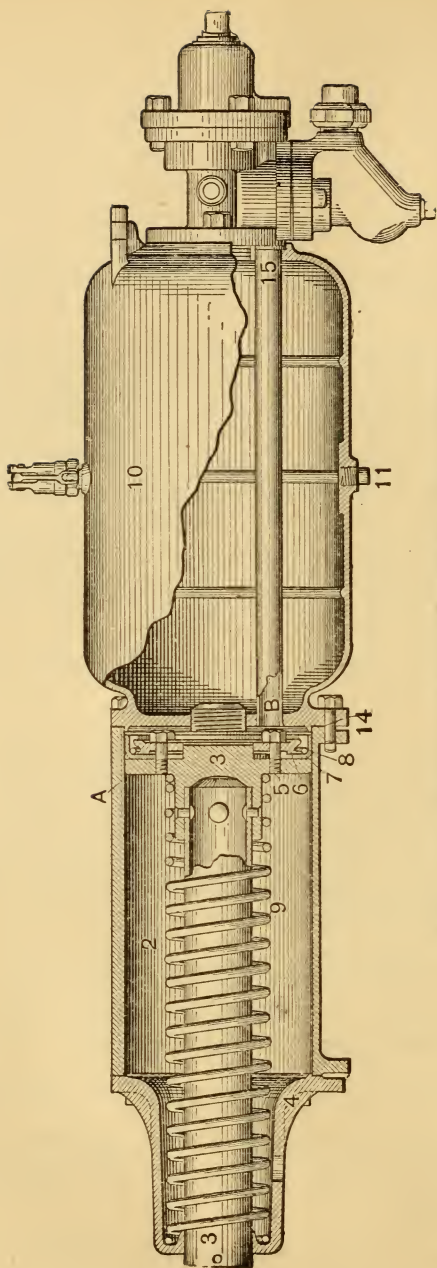

FIG. 11.—WESTINGHOUSE FREIGHT EQUIPMENT.
A. 3 (Fig. 11) is the piston sleeve and head, 9 the release spring, 4 the front cylinder head, 2 the cylinder body, *A* the leakage groove, 7 the packing leather, 8 the expander ring, 6 the follower plate which holds the packing leather 7 to its place, *B* the pipe connecting the triple valve and brake cylinder, and 15 the gasket which makes a tight joint between the auxiliary, triple, and pipe *B* leading to the brake cylinder.
Q. Explain the use of the release spring 9 (Fig. 11).
Q. What enters the sleeve 3 (Fig. 11)?
Q. Of what use is the leakage groove A (Fig. 11)?
Q. Of what use is the auxiliary 10 (Fig. 11)?
Q. Fig. 11 shows a standard equipment for freight cars; are they ever furnished in any other form?
A. Yes; the space limitation on some cars forbids the use of the combined equipment illustrated in Fig. 11. In such cases, what is known as the detached equipment is used, and the brake cylinder and auxiliary reservoir are connected by a suitable pipe.